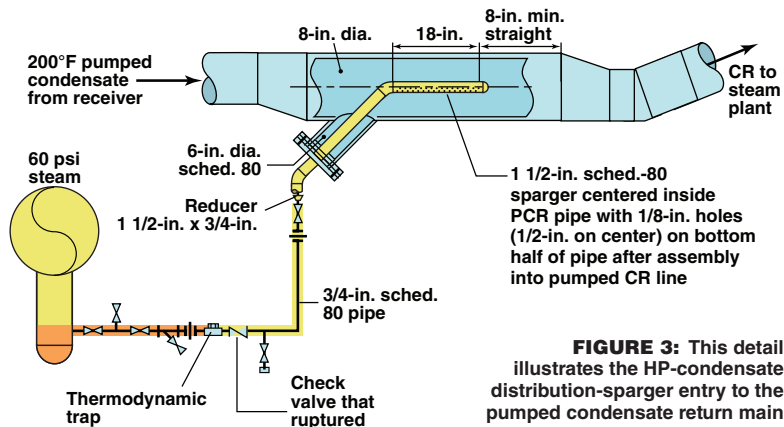

FIGURE 3: This detail illustrates the HP-condensate distribution-sparger entry to the pumped condensate return main
This is what I believe happened to the check valve pictured at the beginning of this article. It was installed as shown schematically in Figure 3. Listed below is the perfect storm of conditions that I believe enabled the waterhammer that split the check valve body and then a description of what I believe happened.
4. The engineer used the scheme depicted in Figure 3 to inject the HP condensate into the pumped CR
Under these conditions, the thermodynamic trap would have discharged flash steam into the CR main periodically when the condensate return pumps were off, so there was no condensate flow from upstream. Essentially, the $R_{c/s}$ would have been 0, allowing flash steam bubbles to persist in the CR Main. The 8-in. expanded pipe sleeve, shown in Figure 3, gave a convenient site for flash steam that did not move downstream to collect because of the high point created by the leaving eccentric reducer. The steam bubbles, which did not buoyantly move uphill in the CR system, would have coalesced into a large bubble in the 8-in. sleeve of the distribution sparger.